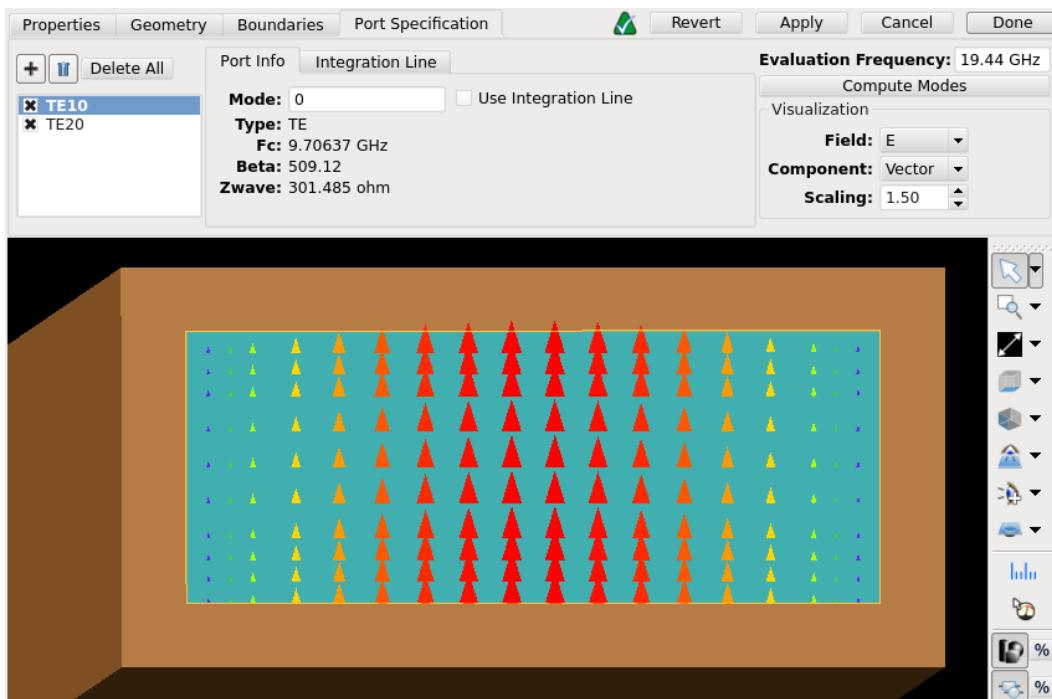

Figure 5.20: Waveguide Port Specification Tab with Mode Results
- The fields for the selected modes will now be shown in the GEOMETRY window and should be as shown in Figure 5.20. The statistics displayed in the **PORT INFO** tab are TYPE OF MODE, which is TE in this case, the Cutoff Frequency (Fc), the propagation constant (BETA) and the Wave
- Figures 5.20 and 5.21 show the field distributions from the eigensolver on the selected waveguide interface.